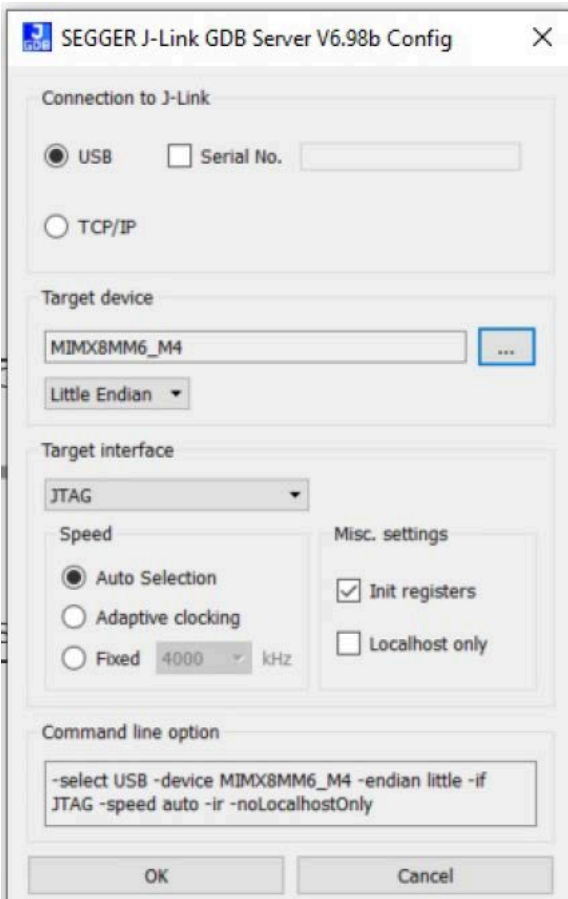

Figure 108. J-Link GDB Server application window
- After server is launched, modify the settings as shown in Figure 108. The target device selected for this demo is **MIMX8MM6_M4**.